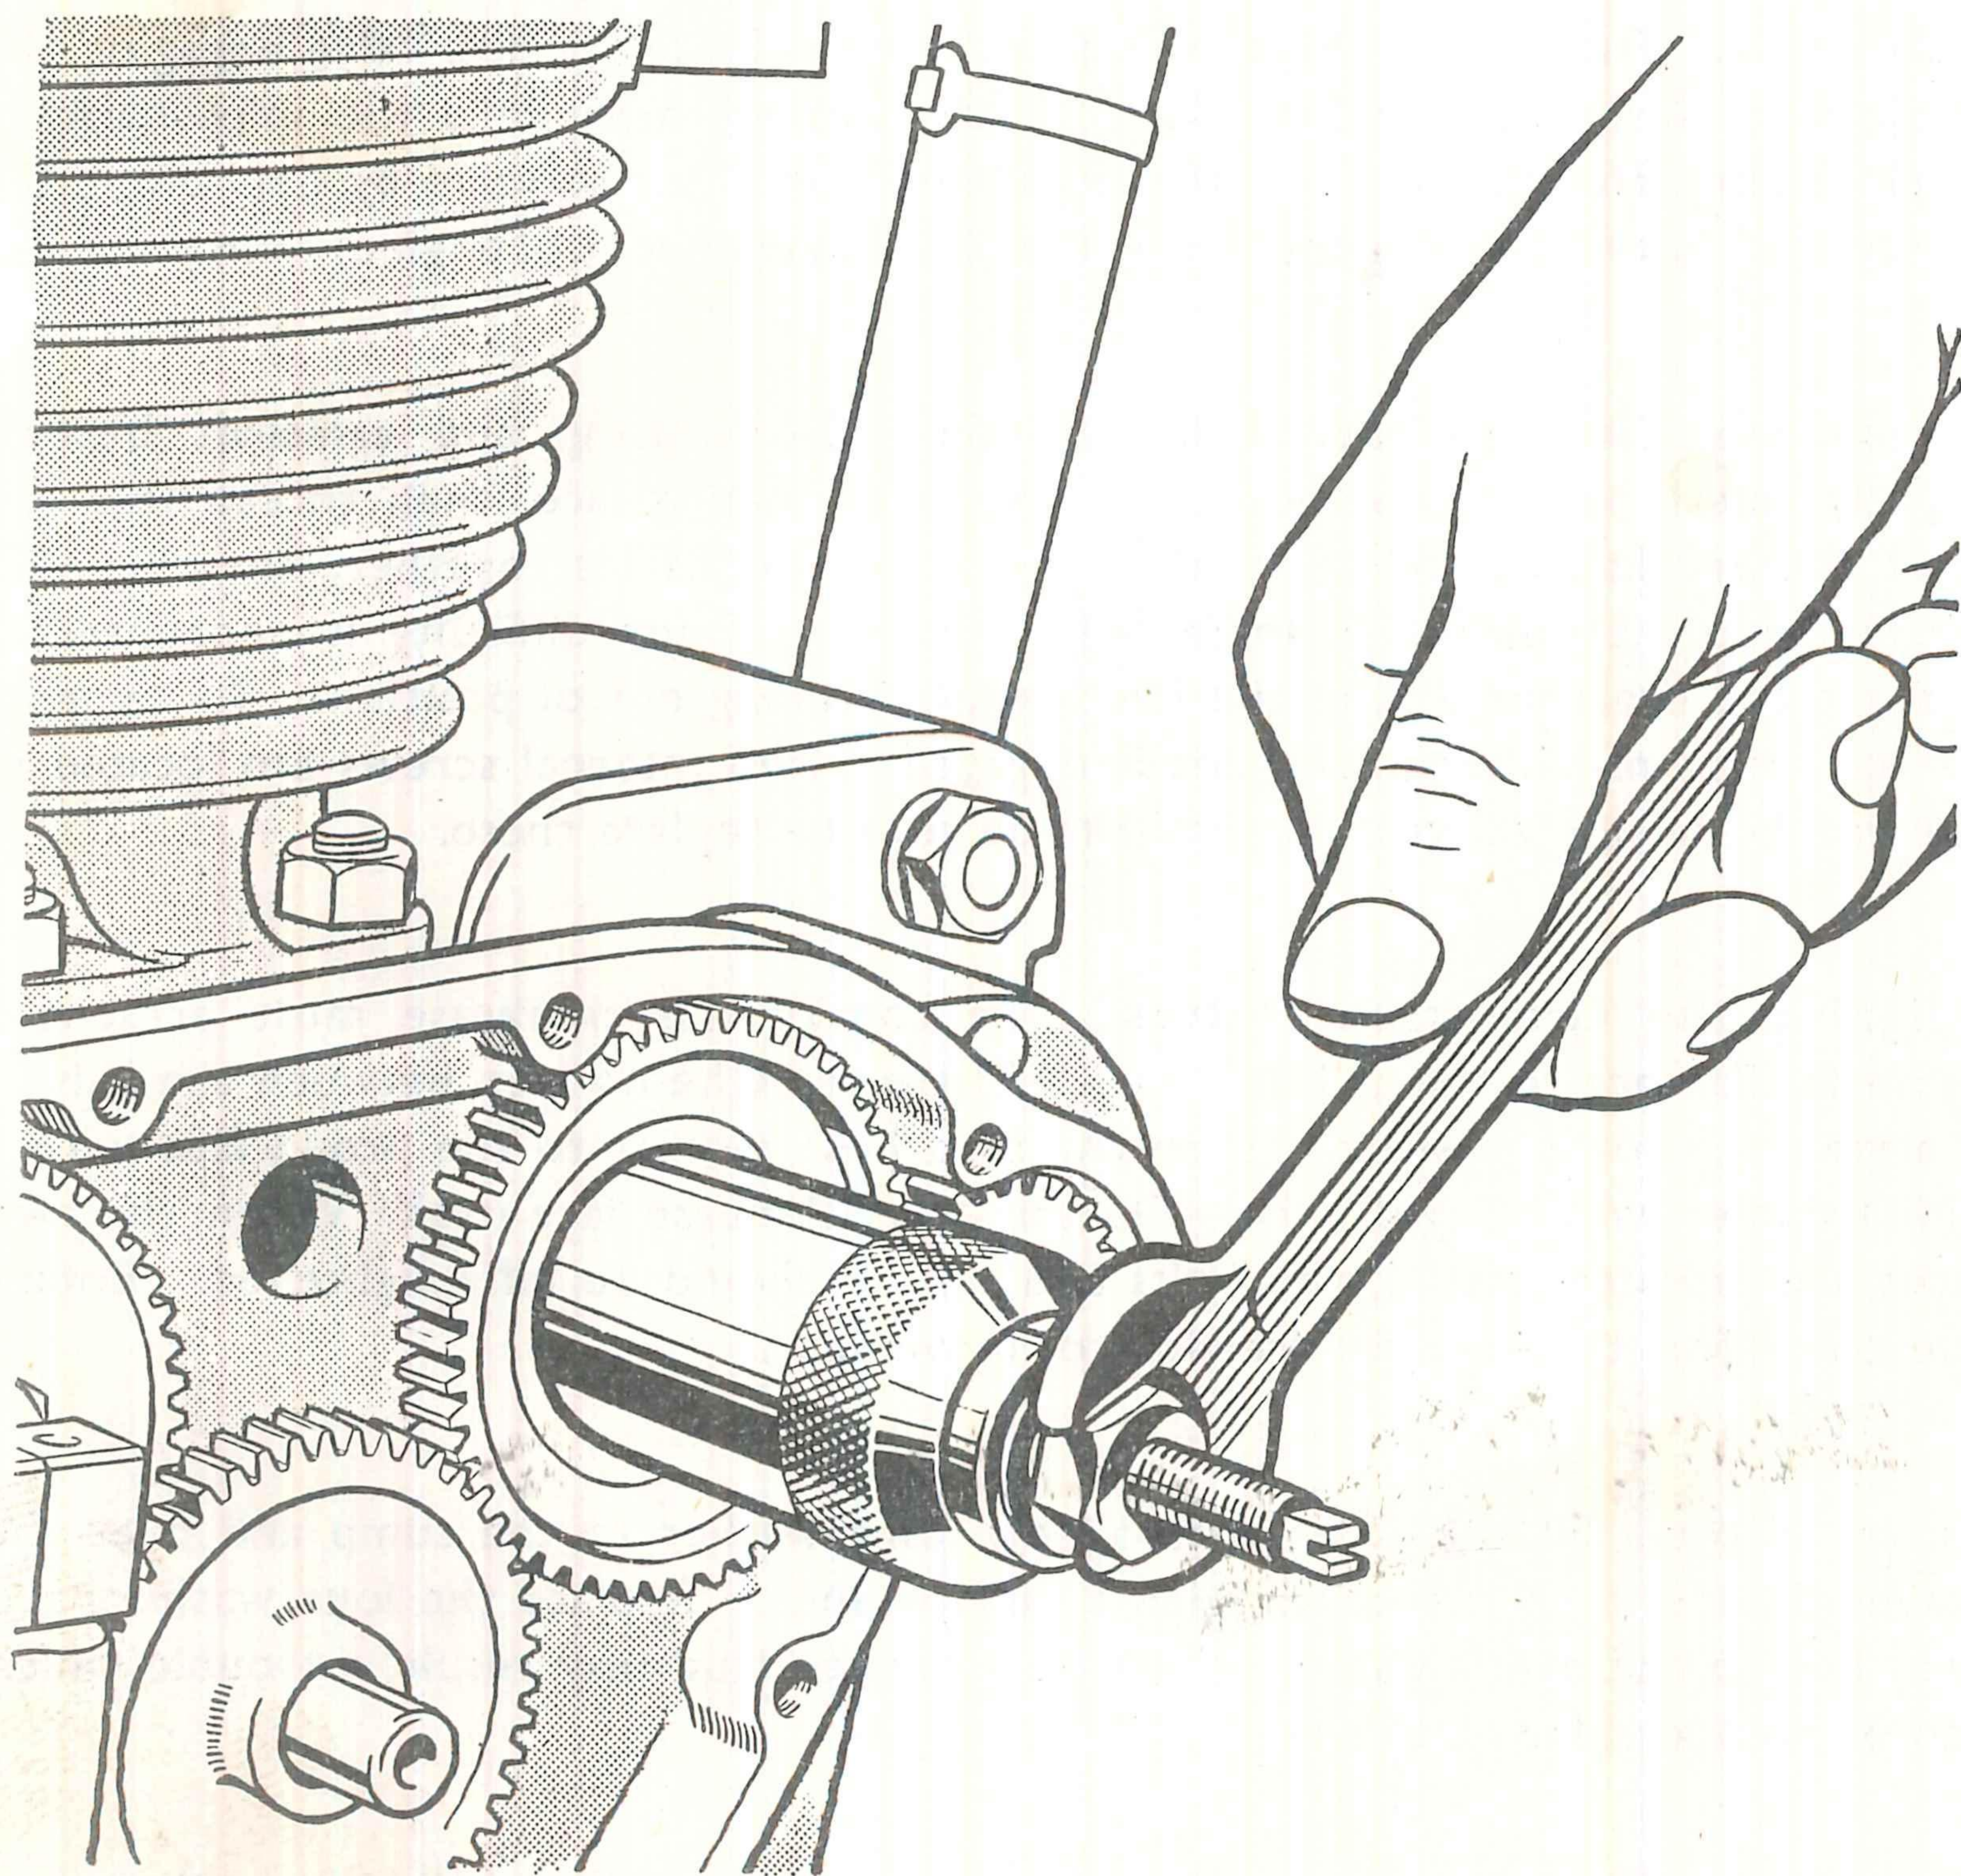

Fig. 18. REPLACING THE CAMWHEEL
Camwheels. To fit these, special tool Z89, Fig. 18 must be employed. First assemble the keys to the camshafts then screw on the centre tool (B). Slide the camwheel over the tool and engage the keyway onto the key. Screw onto the camwheel thread the outer tool (C), and onto (B), the left hand nut. Screw down the nut until it contacts the outer tool, then, to prevent the camshaft turning when the nut is screwed down, hold the end of the rod (B) with a suitable tool. When the camwheel is fully located remove the tool and then fit the opposite camwheel. Do not attempt to punch the camwheels onto the shafts, as the key will be brought into contact with the shaft bushes and may cause considerable damage. If the operator cannot avail himself of the special tool, the camshafts and camwheels can be assembled before the two halves of the crankcase are fitted together. Fit the camshafts to the timing side crankshaft half and then support them, when the camwheels can be aligned to the keys and punched into position.
Fitting the Camwheel. First fit the intermediate wheel. It is now necessary to fit the camwheel to the shaft without disturbing it or the intermediate wheel. This is made possible by aligning one of the three keyways with the camshaft key and the teeth in line with the teeth on the intermediate wheel. When aligned press on the camwheel (See Fig. 18).